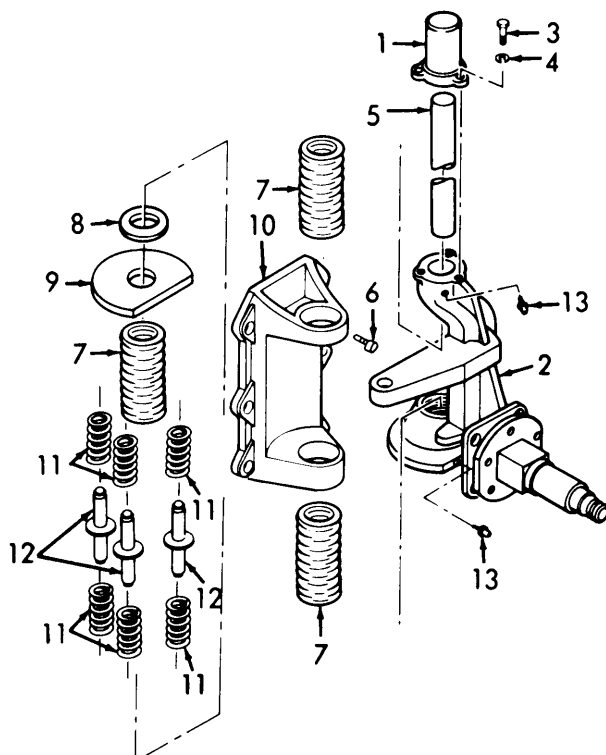

Figure 3-23. Shock Absorbing Spring Assembly, Disassembly.
- (1) Remove cap (1, Figure 3-23) from knuckle (2).
- (a) Remove three bolts (3) and three lockwashers (4).
- (b) Lift cap (1) from knuckle (2).
- (2) Remove kingpin (5).
- (a) Remove capscrew (6).
- (b) Lift kingpin (5) from knuckle (2).
- (3) Note and record position of dust covers (7), washer (8), and spring support assembly (9).
- (4) Remove bracket (10) from knuckle (2) and disassemble.
- (a) Remove bracket (10) from knuckle (2).
- (b) Remove three dust covers (7), washer (8), spring support assembly (9), six springs (11), and three spring guides (12).
- (c) Separate springs (11) from spring guides (12).